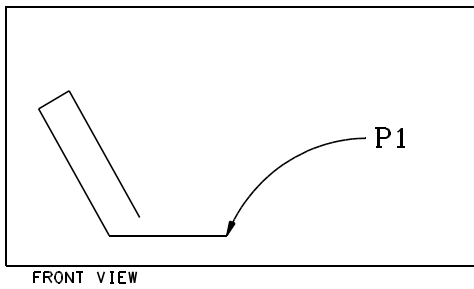

Figure 2
3. Click on point P1 (the center bottom of the front view) to enter a start point. (See Figure 2.)